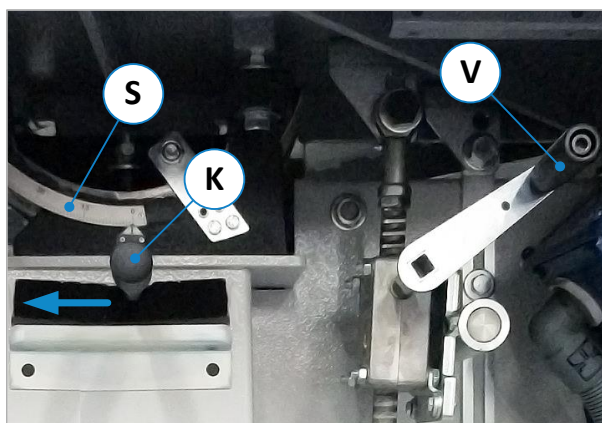

Figure 69: Table tilting device
- First loosen the clamping of the table by swivelling the clamping lever (K) all the way to the left (see direction of arrow in ⇒ Figure 69).
- Set the desired tilt angle for with the hand crank (V) and by reading the angle scale (S).
- Fix the set position by swivelling the clamping lever (K) back to the initial position to the right.